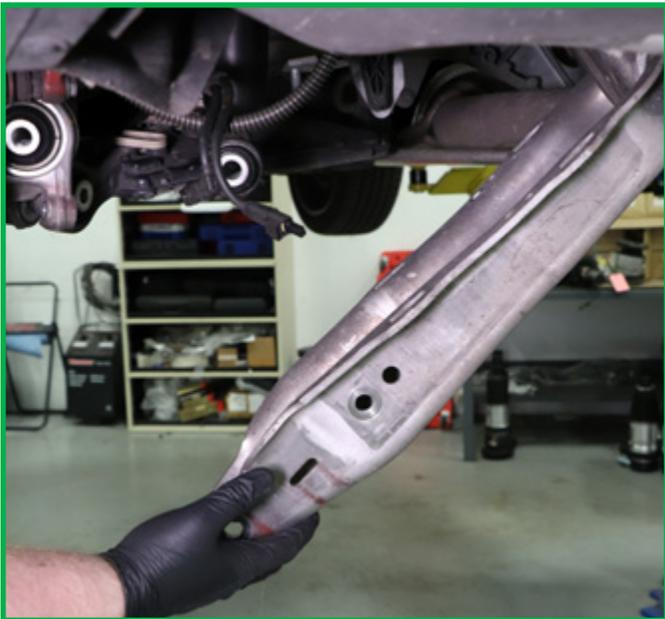

FIGURE 28
4. Insert the lower control arm to wheel carrier bolt. Insert the lower strut bolt. Using an appropriate jack, position the wheel carrier to normal trim height. Tighten the lower strut bolt to manufacturer's specifications. (Figures 28, 29, 30)